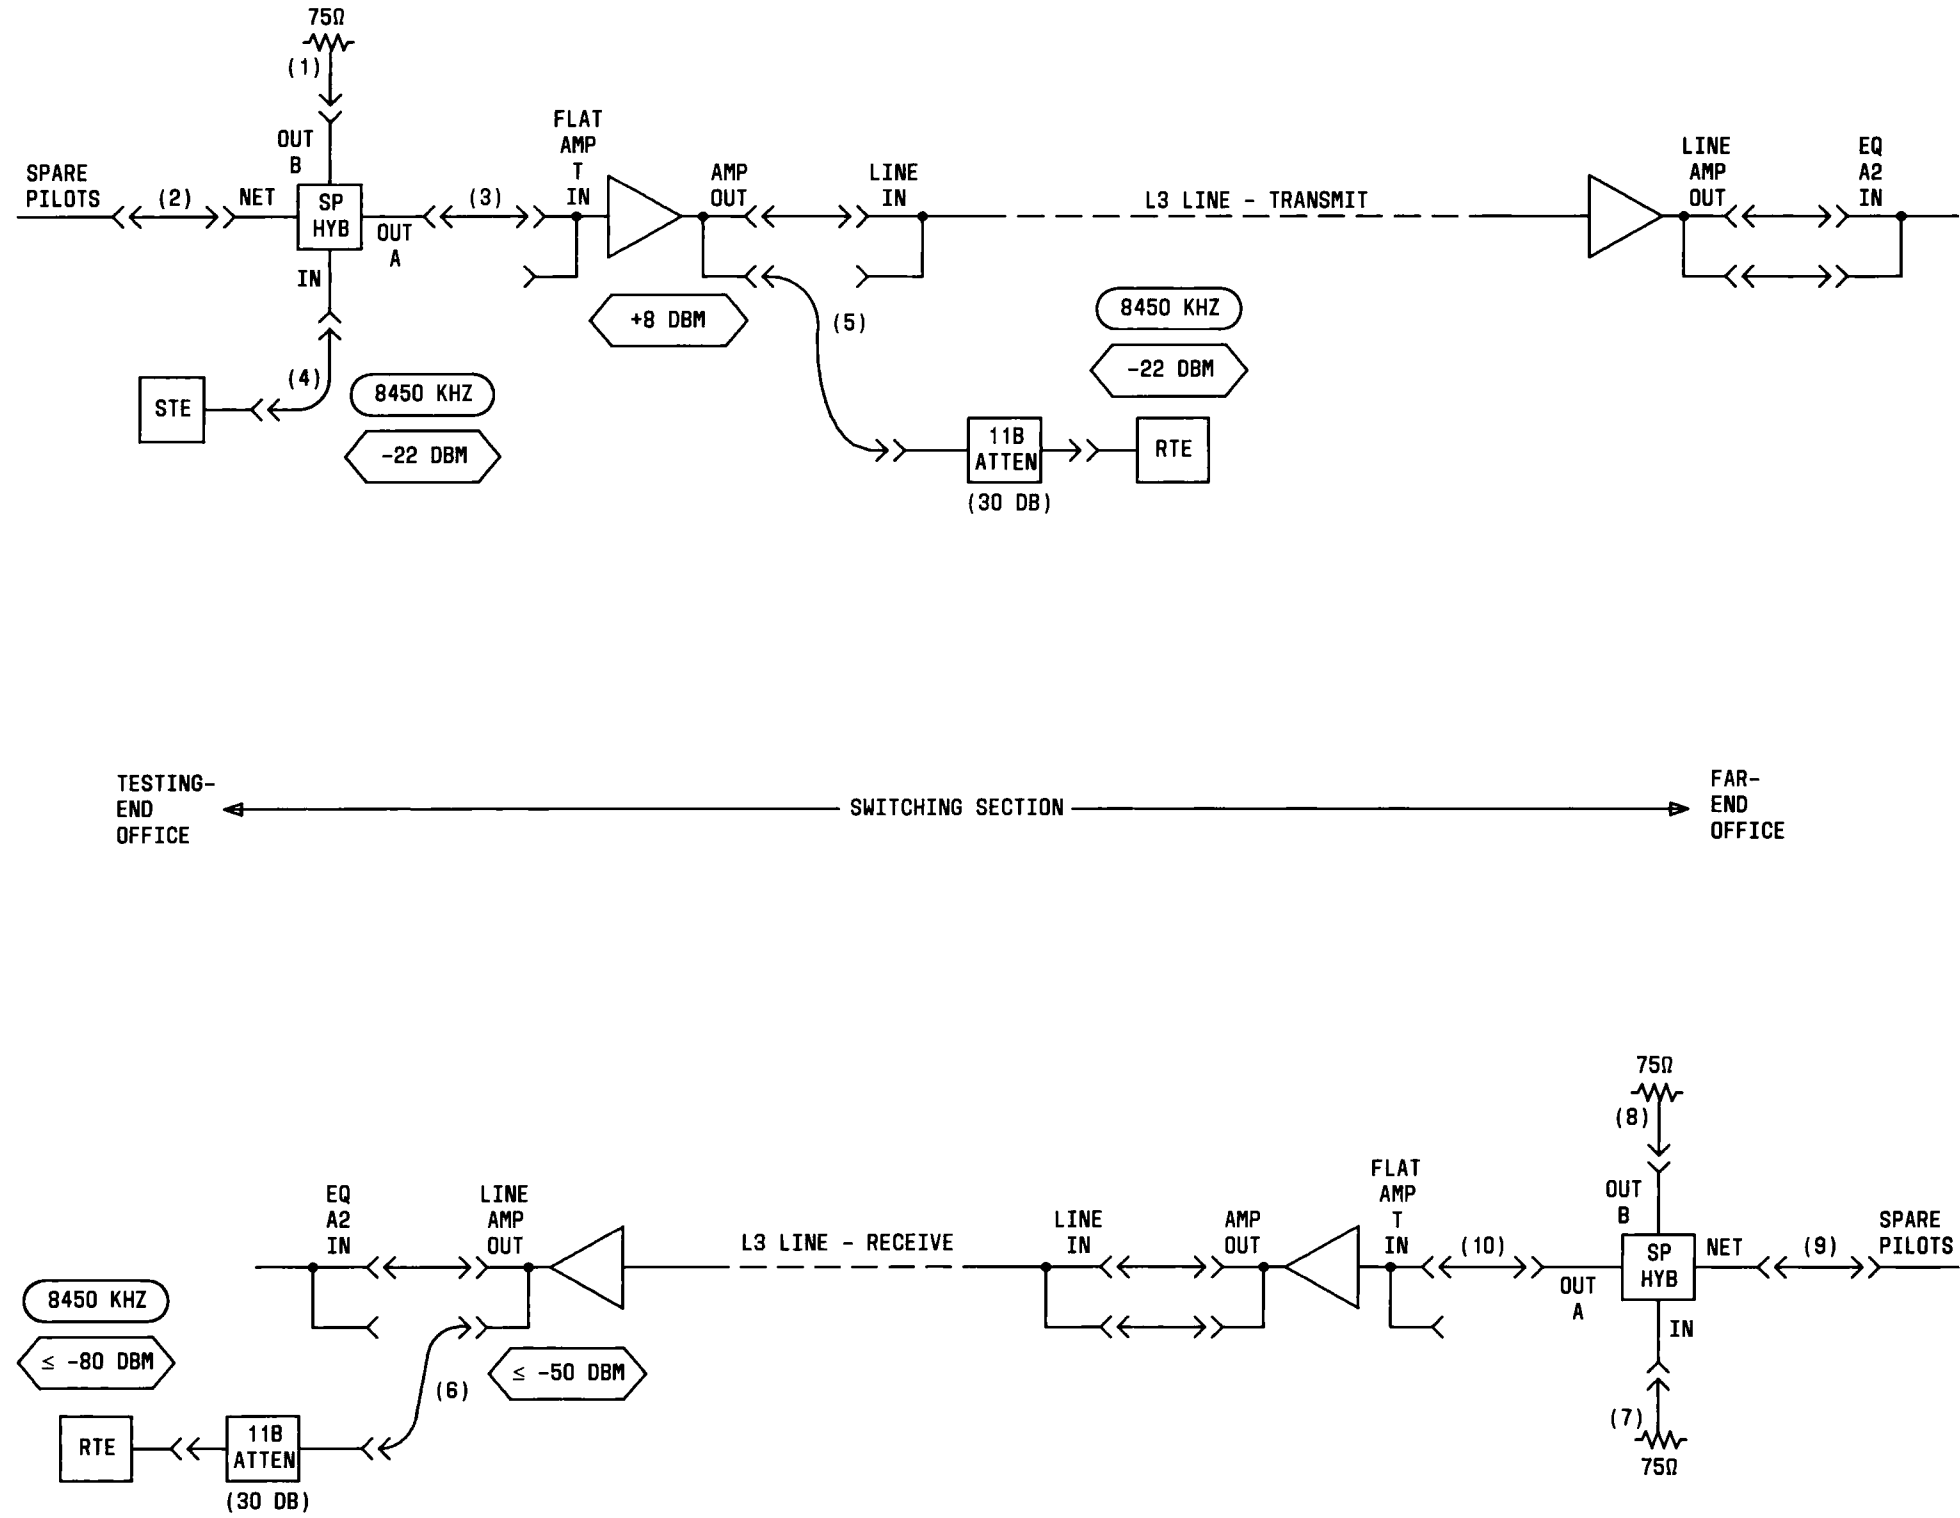

Fig. 4—Connections—Cross-Coupling Measurement—Regular or Protection Lines
| | At Testing End (See Fig. 4) |
| 4 | Terminate spare hybrid OUT B jack with 368A plug [patch (1), Fig. 4]; apply spare pilots to the transmit line, via spare hybrid and FLAT AMP T IN multiple jack [patches (2) and (3), Fig. 4]; then remove regular pilots by disconnecting the 372A plug from between the TRSG HY OUT A jack and the FLAT AMP T IN jack. |
| 5 | Request far end to terminate spare hybrid IN and OUT B jacks with 368A plugs [patches (7) and (8), Fig. 4]; apply spare pilots to the other line of the pair under test, via spare hybrid and FLAT AMP T IN multiple jack [patches (9) and (10), Fig. 4]; then remove regular pilots. |
| 7 | Connect STE output to IN jack on spare hybrid [patch (4), Fig. 4]. |
| 8 | Connect RTE, through 11B attenuator, to AMP OUT multiple jack for flat amplifier T [patch (5), Fig. 4]. |
11	Disconnect RTE from the AMP OUT jack [patch (5), Fig. 4].
12	Connect RTE, through 11B attenuator, to line amplifier LINE AMP OUT jack (in patch panel of receive line bay under test) [patch (6), Fig. 4].